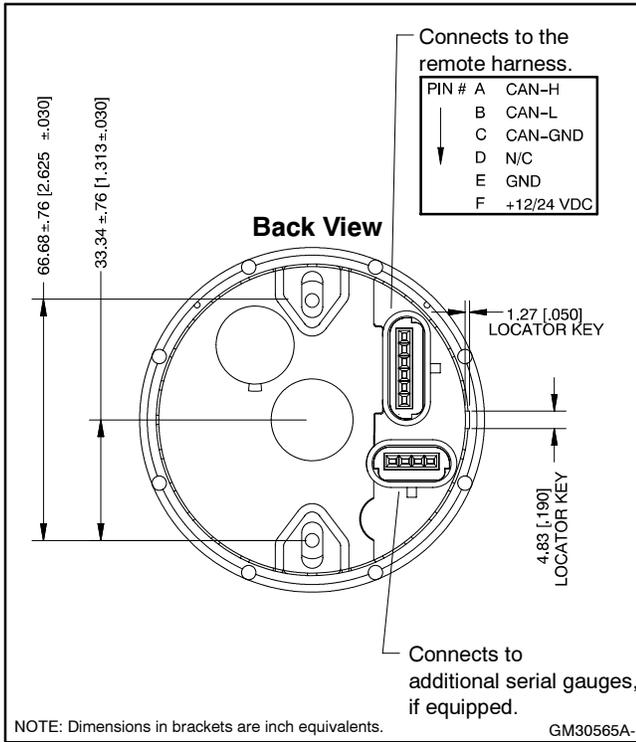
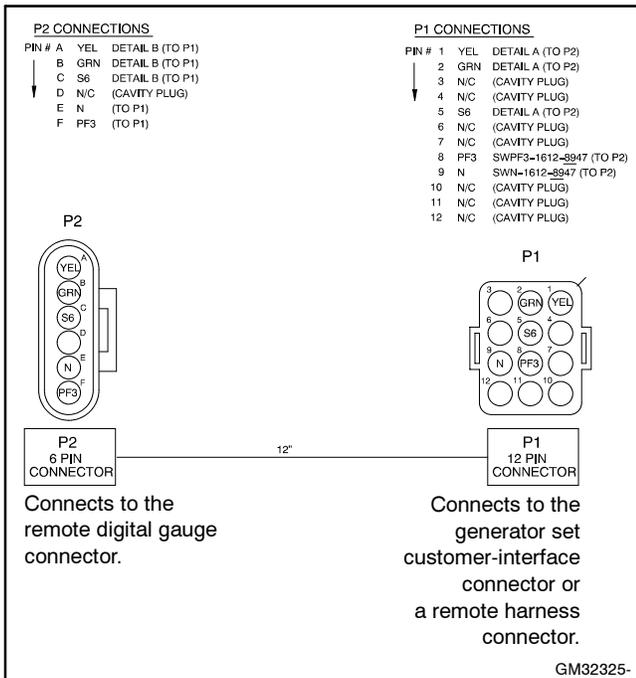
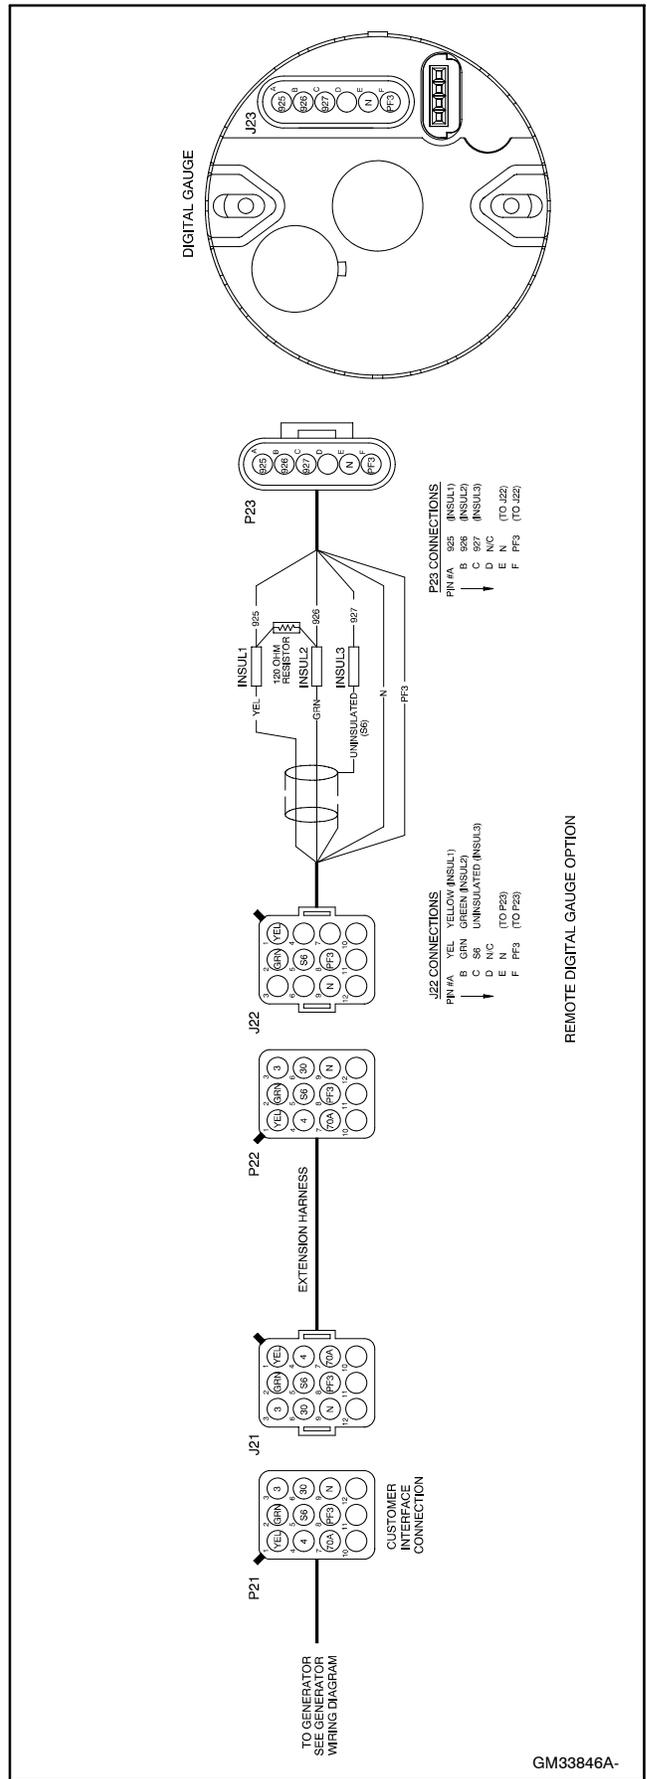

Figure 4 Remote Digital Gauge Connections
Figure 5 Remote Gauge Harness GM32325
Figure 6 Harness Connection
2.2 Connect the remote gauge harness (6-pin connector) to the digital gauge (6-pin connector). Connect the 12-pin connector end of the gauge harness or a remote extension harness to the generator set's customer-interface 12-pin connector. See Figure 4, Figure 5, and Figure 6.